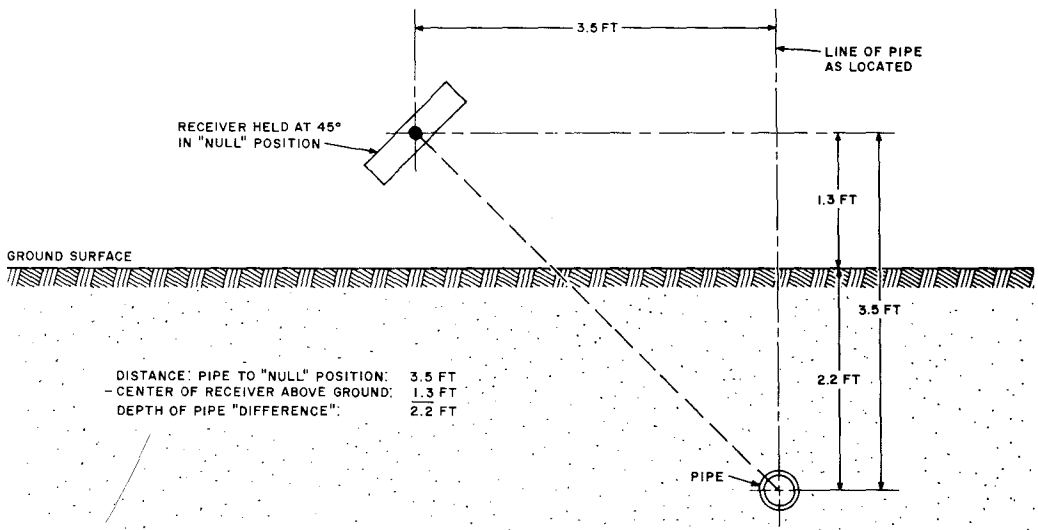

Fig. 7—Determination of Conductor Depth
6.02 After the center of a conductor has been located and marked, hold the receiver at a 45 degree angle parallel to line of conductor and move it away from the conductor at right angles to the conductor line until a new null point or minimum signal is obtained (Fig. 7).
6.03 The distance from the center line of the conductor, as previously determined, to the 45 degree null position is the same as the distance from the horizontal null position to the center of the conductor. This is illustrated in Fig. 7. It will be noted that a 45 degree right triangle has been formed in this operation. To prevent air coupling, the transmitter and receiver should be at least 35 feet apart during this operation.